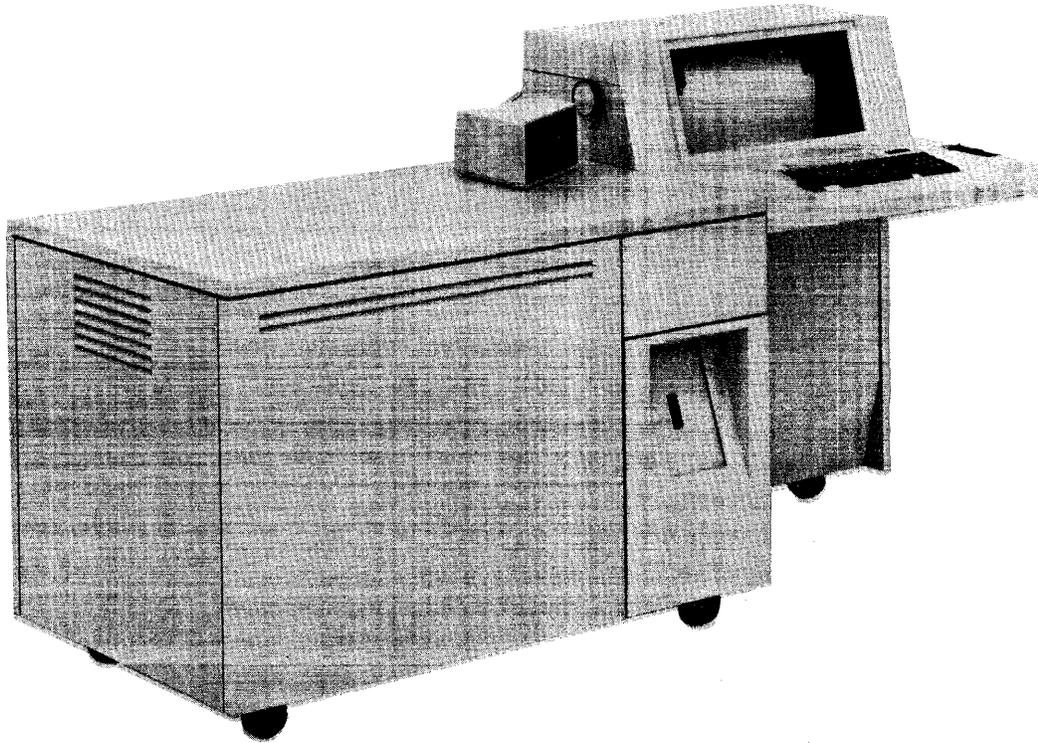

Figure 8-39.1. IBM System/32
*IBM System/32* (Figure 8-39.1) is a desk-size operator-controlled general-purpose computing system designed for use as a data processing tool in a wide variety of industries. It is composed of the IBM 5320 System Unit, which features keyboard data entry and disk processing. Components of the 5320 include a keyboard, a processing unit, disk storage, a display screen, a diskette drive, and a printing unit.